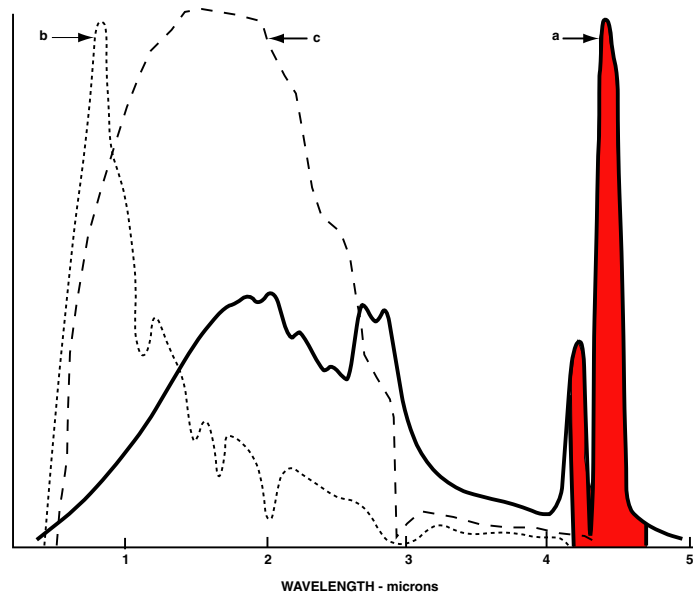

Fig. 1: Spectrums of:
- Fig. 1(a) shows the spectrum of a typical fire of this type
- Fig. 1(b) the spectrum of the radiation of the sun and
- Fig. 1(c) that of a tungsten filament lamp.